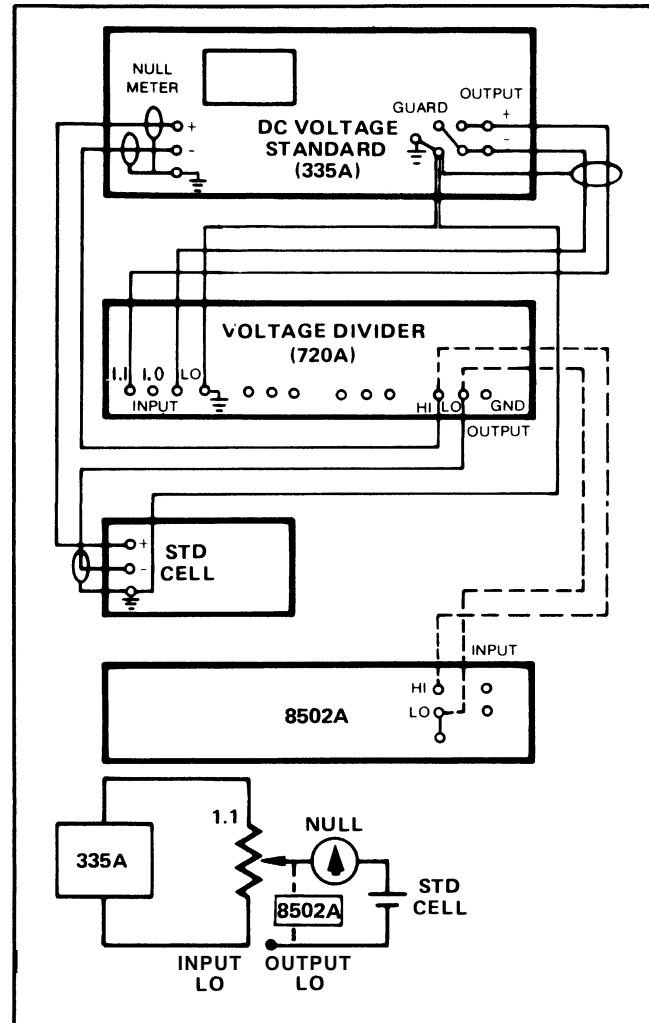

Figure 4-1. Connections For Low Range DC Voltage Tests
1. Connect the equipment shown with solid lines in Figure 4-1. Do not connect the 8502A at this time.
5. Disconnect the leads at the Voltage Divider output terminals and connect the 8502A as shown with the broken lines in Figure 4-1.